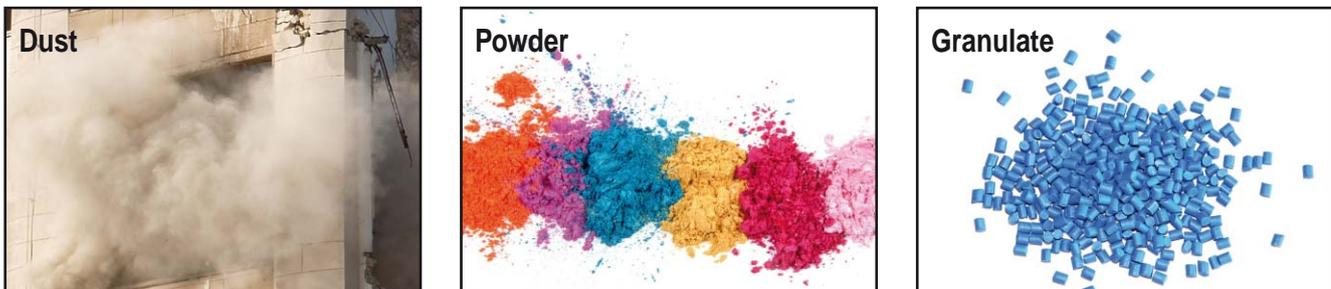

Fig. 1 - 3, Categorisation by particle size
- according to the size of the dust particles see Fig. 1 - 4